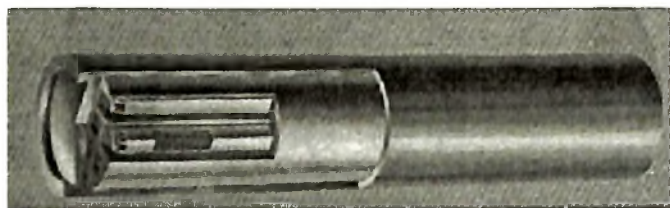

Figure 16: Cu-canister for nuclear waste
In contrast to the “clean” wind power the nuclear power produces dangerous waste, which must be safely disposed. In Sweden the Swedish Nuclear Power and Waste Management Company (SKB) is carefully evaluating the Electron Beam Welding and Friction Stir Welding processes for encapsulation of the waste in durable canisters in Cu (4). These will be stored in a deep repository in the Swedish bedrock. The Cu canister consists of a five centimetre thick Cu casing. Inside, there is a cast iron insert to provide mechanical strength. The canister (Figure 16) is close to five metres long and has a diameter of about one metre. A canister filled with spent fuel weighs about 27 tonnes.